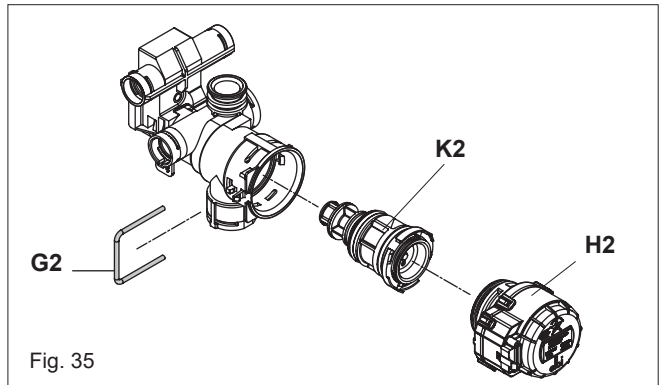

Fig. 35
6.20.3 VALVE ACTUATOR (fig. 35)
6.20.5 DIVERTOR VALVE ASSEMBLY (fig. 35)